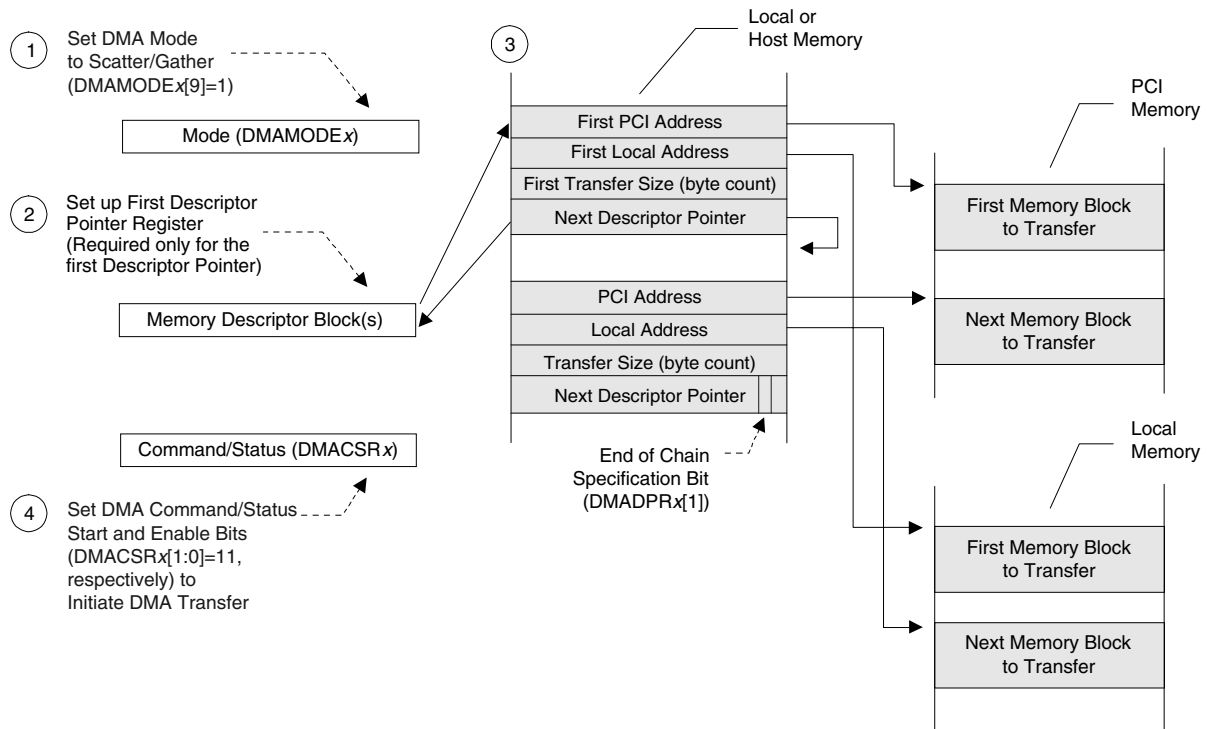

Figure 5-17. DMA Scatter/Gather Mode Descriptor Initialization [PCI SAC/DAC PCI Address (DMADACx) Register Dependent]
- DMADACx contain(s) a non-zero value. DMAMODEx[18] is set to 0. The PCI 9056 performs a Single Address Cycle (SAC) 4-Lword descriptor block load from PCI memory and DMA transfer with DAC on the PCI Bus. (Refer to Figure 5-17.) The DMA descriptor block starting addresses should be 16-byte-aligned.